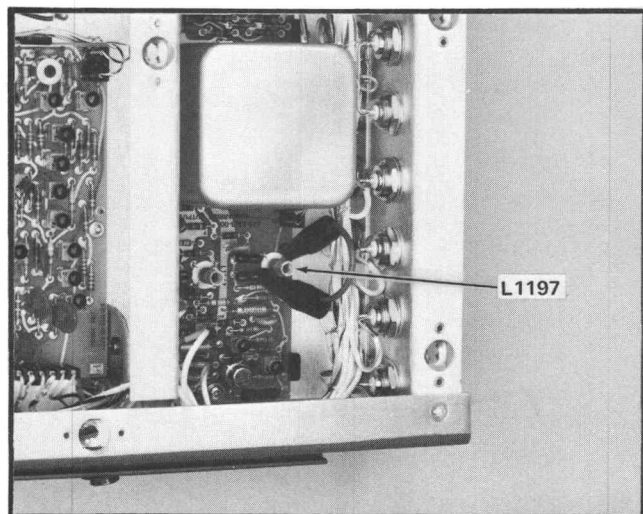

Fig. 6-22. Subcarrier Output board with L1197 shorted.
o. Using a jumper cable short L1197 (see Fig. 6-22), then connect the Unknown coaxial cable of the Calibration Fixture to the 146 SUBCARRIER connector.